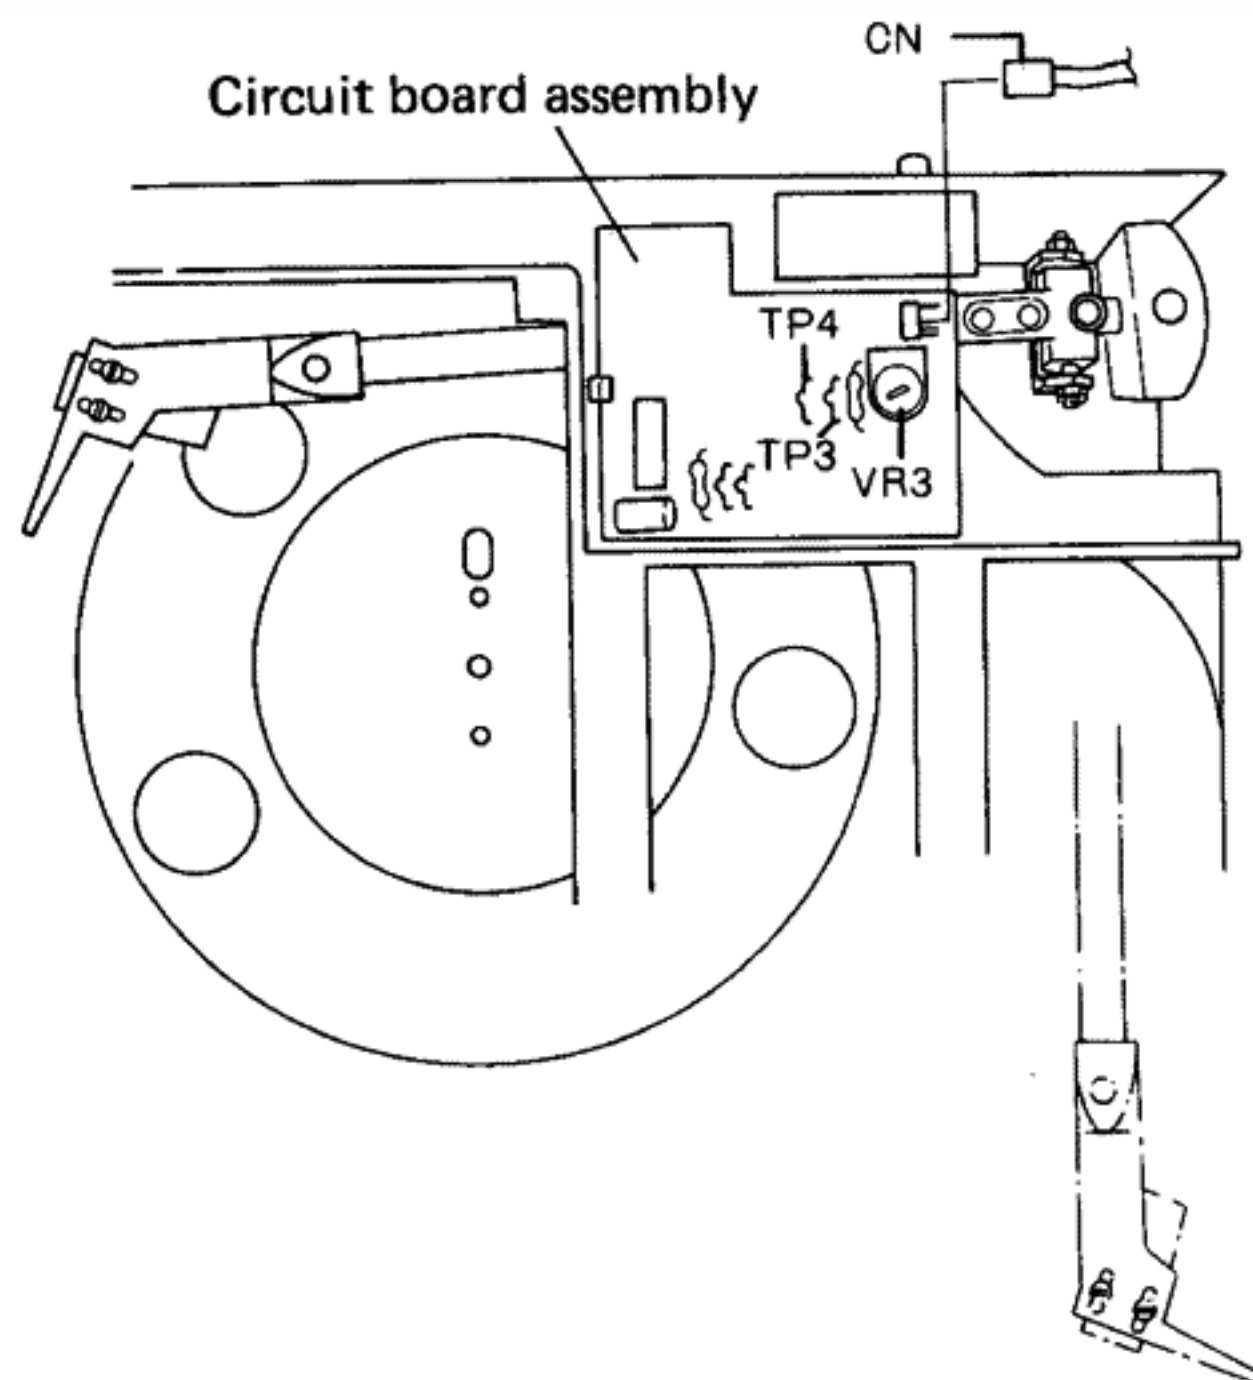
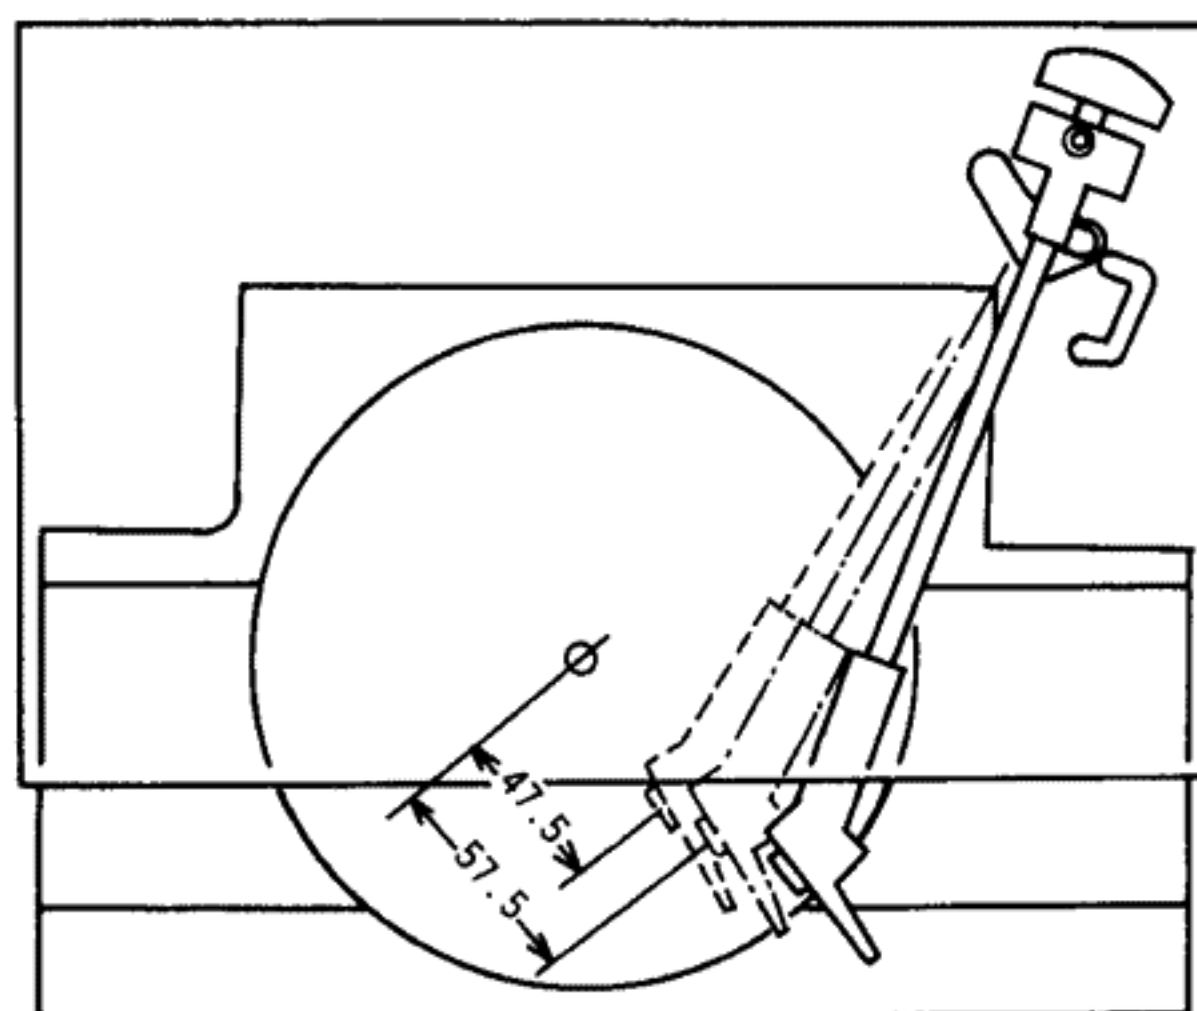

Fig. 12-3 End sensor adjustment 1
Fig. 12-4 End sensor adjustment 2
2. With the unit in playback status, turn off the power switch. Then, disconnect the connector (CN) from the circuit board assembly to make sure the mechanism motor and turntable motor does not move.
3. Connect a DC voltage meter between TP3 and TP4 (GND) as shown in Fig.12-3 Turn the power switch on, and position the stylus of the tonearm  $47.5\text{mm}$  from the center shaft. Read the voltage from the voltage meter at this position. (Fig. 12-4).